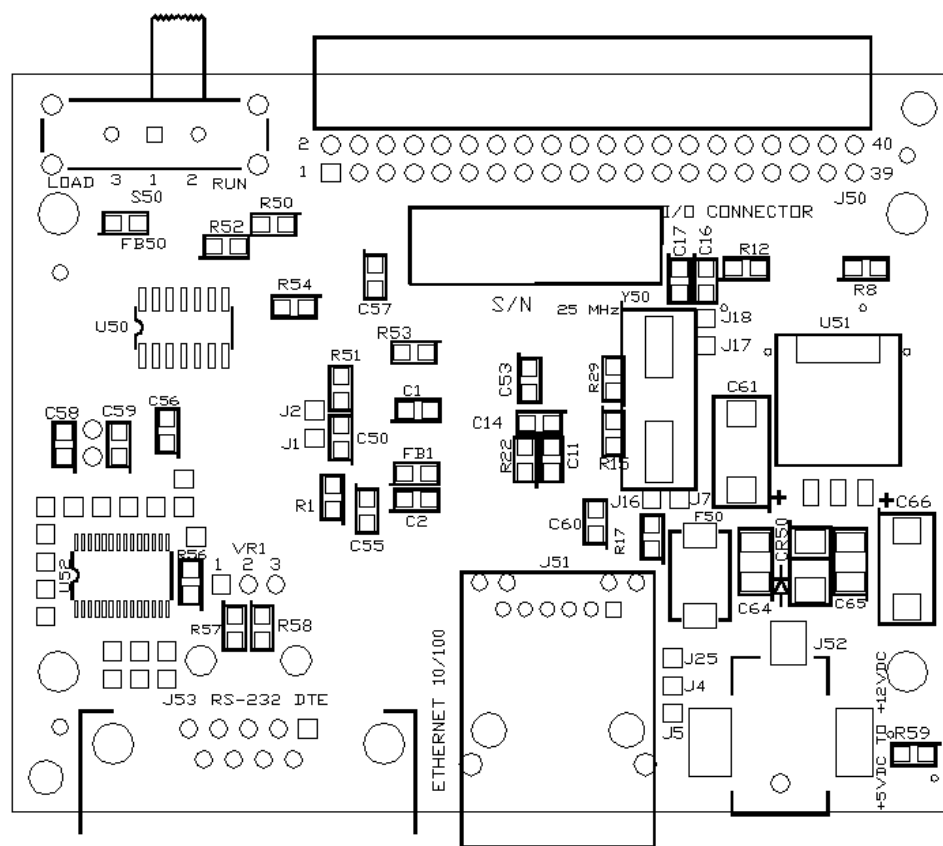

Figure 1-3 DEMO9S12NE64 Bottom Side
- Figure 1-2 and Figure 1-3 show the top and bottom side layout of the DEMO9S12NE64